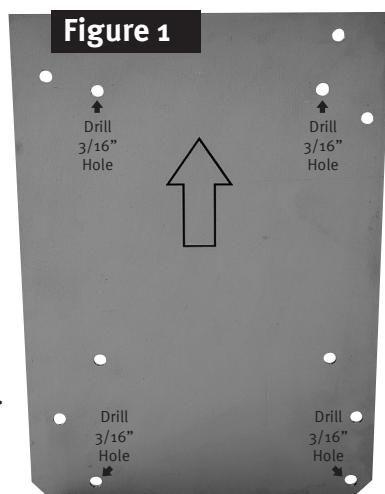

Figure 1
1. Place the ICM mounting plate over the previous circuit board location with arrow facing up as seen in Figure 1.
4. With a pencil or marker, mark the (4) holes labeled "Drill 3/16" Hole" as seen in Figure 1.
5. Remove ICM mounting plate and drill (4) holes with a 3/16" drill bit.
6. Line up the (4) plastic standoffs from the **ICM2813** with the (4) holes shown on the ICM mounting plate. These two components only connect one way.
7. With your thumb, firmly press each of the (4) standoffs until each one snaps into the ICM mounting plate.
8. With the **ICM2813** now firmly secured to the ICM mounting plate, line up the (4) standoffs with the new holes drilled in Step 5 above.
9. With your thumb, firmly press each of the (4) standoffs until each one snaps and locks into the sheet metal surface. Check to make sure all (4) standoffs are securely fastened to the sheet metal.